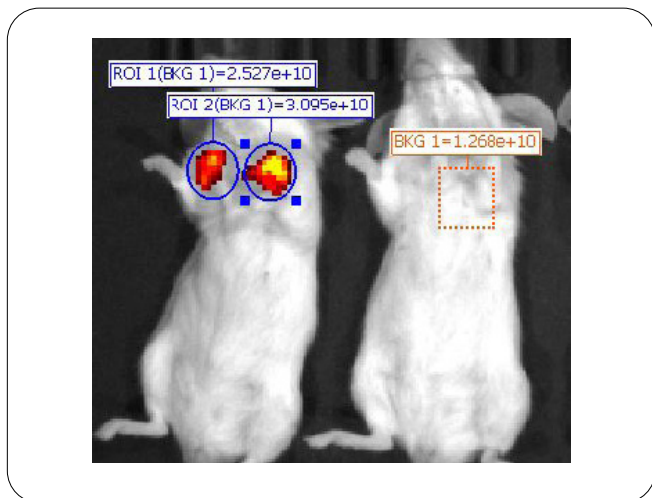

Figure 5: 2D epi-FLI showing the background ROI is being subtracted from the measurement ROIs.
3. Draw your measurement ROIs. The background can automatically be subtracted from your measurements if selected in the ROI properties window (Figure 5). It is best to keep the size of the measurement ROIs consistent across images that are to be compared. Alternatively, you can divide the total radiant efficiency by the ROI area to normalize for differences in size (e.g., for ex vivo organ analysis). The unit for 2D FLI (epi-illumination) takes the total flux and divides it by the power of the lamp. It's called "total radiant efficiency": $[p/s] / [\mu W/cm^2]$. The unit for 2D FLI (transillumination) is labeled as "NTF Efficiency" in the image window and "Efficiency" in the measurement table: cm^2 .